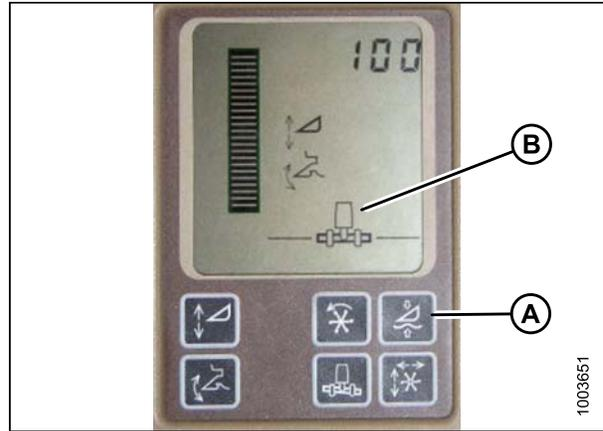

Figure 4.52: John Deere Combine Display
Do **NOT** use the active header float function (A) in combination with the MacDon auto header height control (AHHC)—the two systems will counteract one another. The header symbol (B) on the display should NOT have a wavy line under it and should appear exactly as shown on the Active Header Control Display in Figure 4.52: *John Deere Combine Display*, page 114.